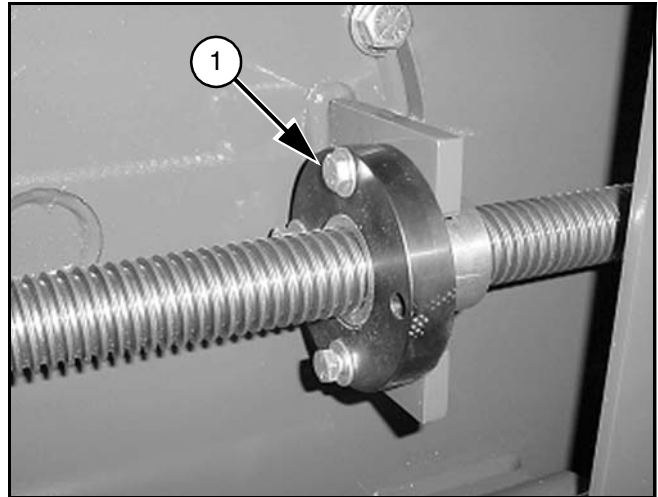

Figure 6
2. Remove three 3/8" bolts (1) as shown in Figure 6.